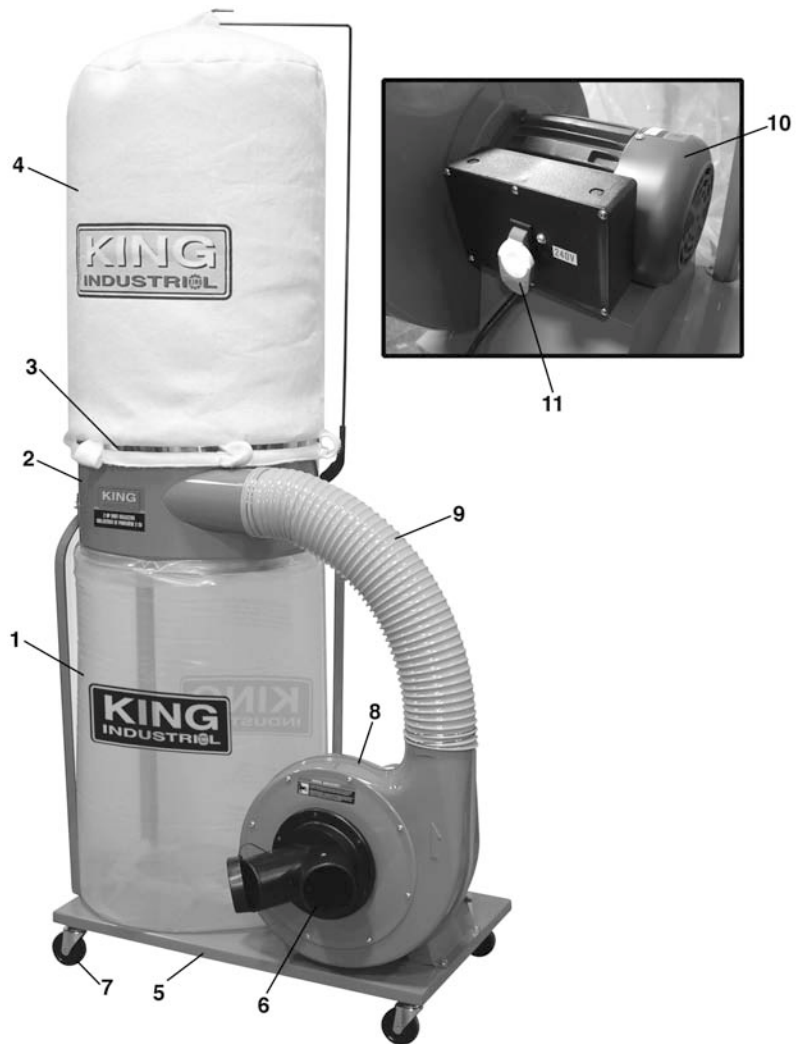

FIGURE 3
On the side of the motor is the switch box. The ON/OFF switch (A) Fig.3 has the ability to be turned "ON" when the starter key (B) is properly installed. Switch to the "ON" position by moving the switch upward. To put the switch in the "OFF" position, move the switch downward. Remove the key from the switch whenever the dust collector is turned "OFF". Place the key in a safe place out of reach of children.